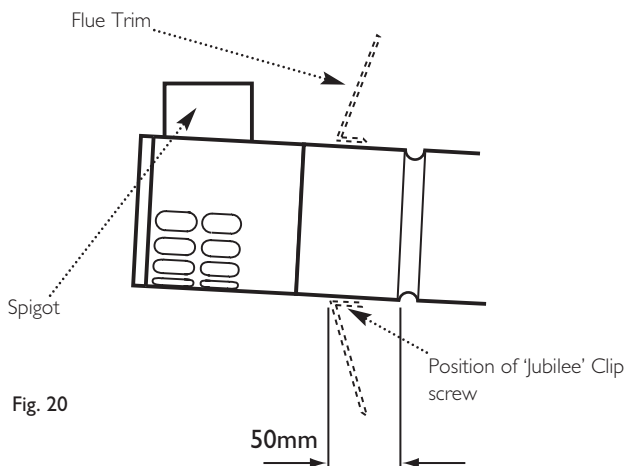

Fig. 20
5. If required, the flexible flue trim should be fitted prior to this as it cannot be fitted after. Use the large 'Jubilee' clip to secure the trim to the flue (See Fig. 20, trim shown dotted), with the screw part of the clip at the bottom.